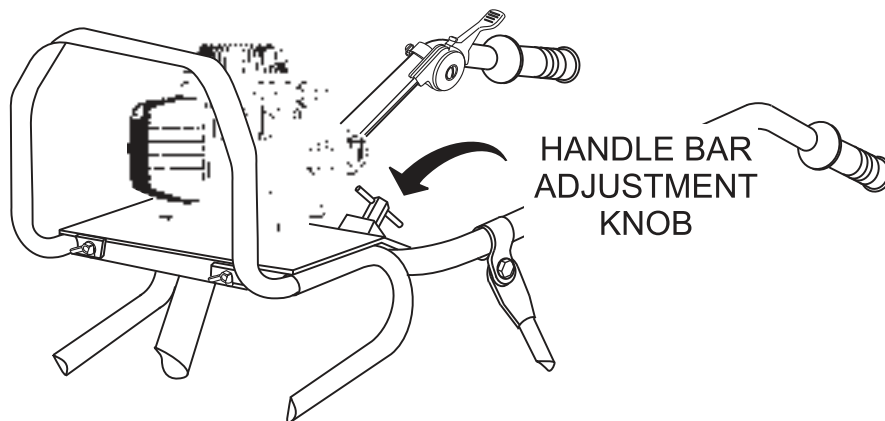

Figure 5. Handle Bar Adjustment Knob
9. Two handle bar adjustment knobs (Figure 5) are located at the base of the steering handle bar. Loosen these two knobs to adjust the height of the steering handle bar to a suitable working position.